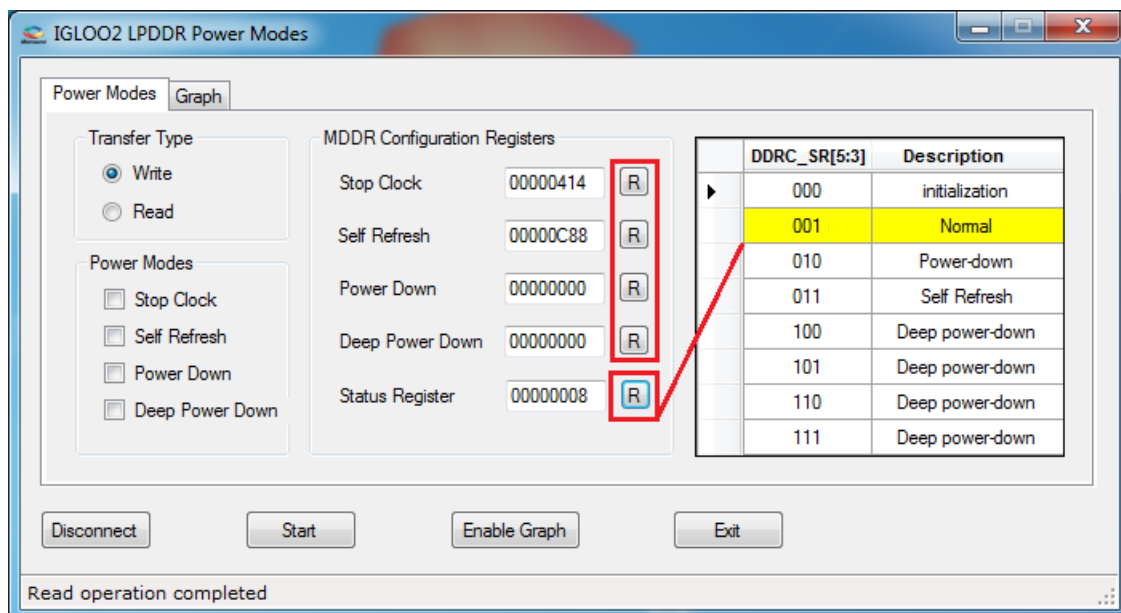

Figure 18 • MDDR Configuration Registers
7. Click **R** one-by-one. The **MDDR Configuration Registers** content is displayed in the text boxes. The **Status Register** displays the current operational mode. Figure 18 shows the MDDR Configuration Registers.